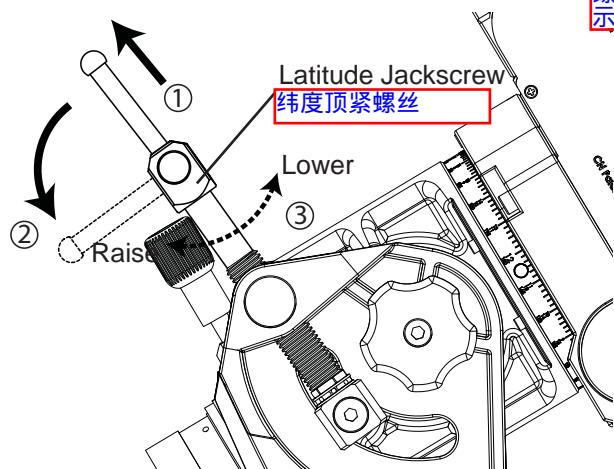
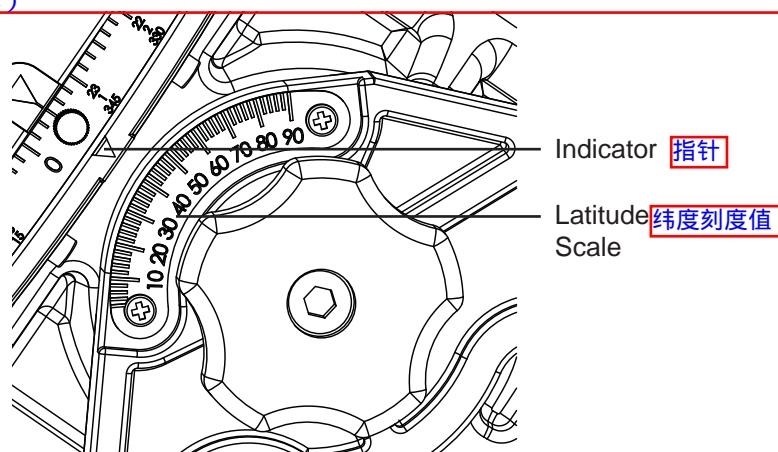

Fig. 2.3b
Fig. 2.3c
2. Pull out the handle stowed in the latitude jack screw (Fig. 2.3b), and use it to turn the jack screw to set the R.A. axis's elevation to a specified angle by referring to the latitude scale on the left side of the mount. (Fig. 2.3c)
3. Stow the handle into the jack screw after the adjustment. (Fig. 2.3b) **3. 调节完成后把顶紧螺丝的手柄归位**